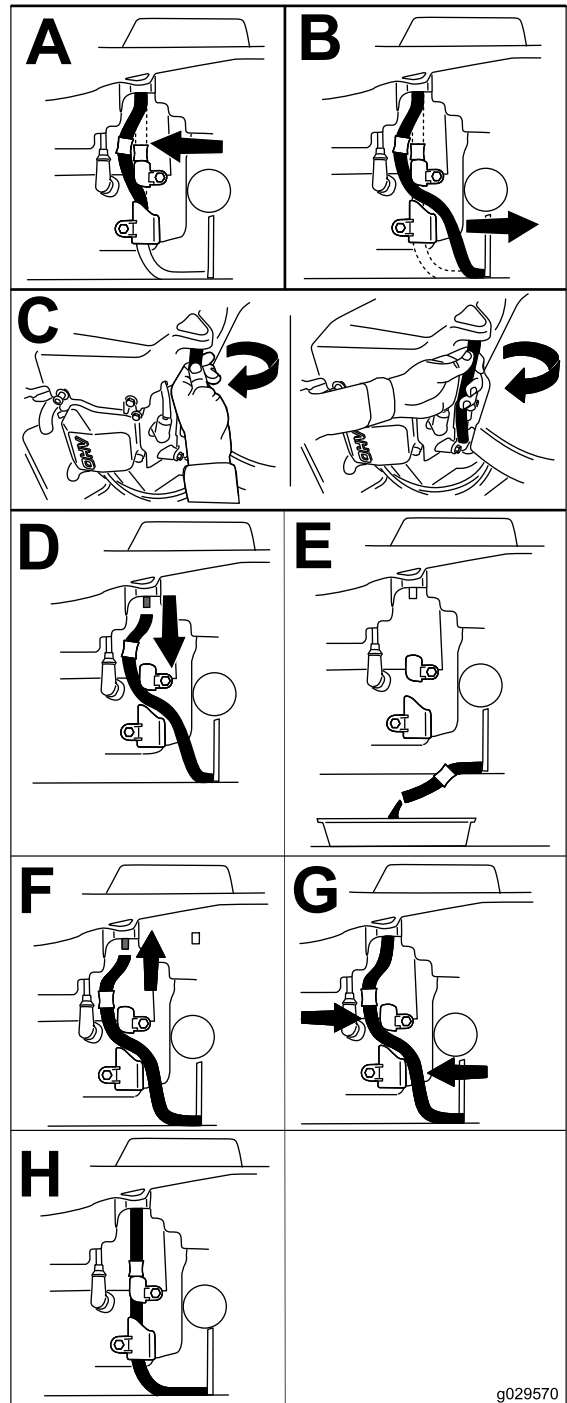

Figure 67
4. Drain the engine oil (Figure 67).